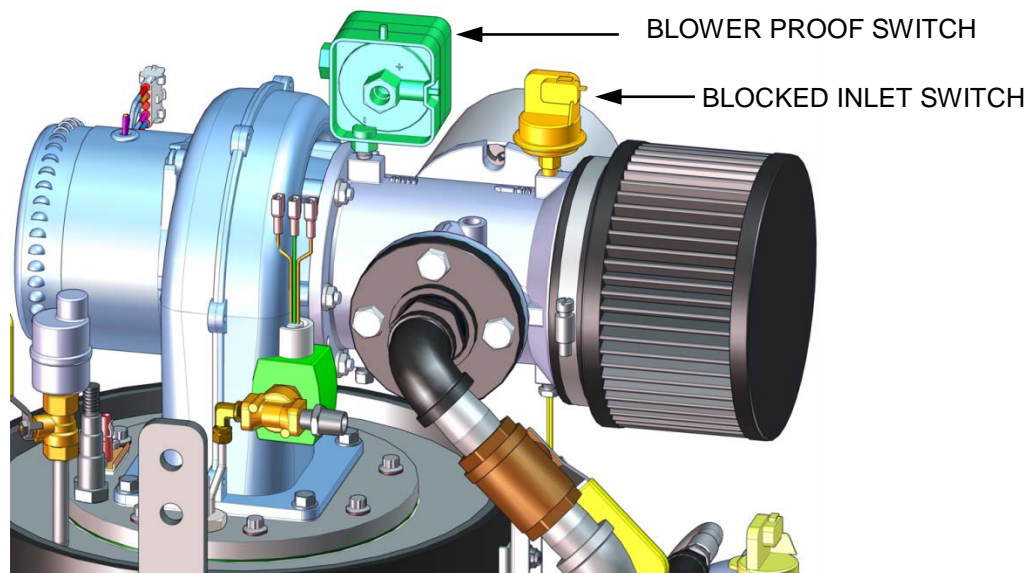

Figure 3-3a: BMK 750 & 1000 Blower Proof Switch
4. Next, the blower proof switch on the Air/Fuel Valve (Figure 3-3a and 3-3b) closes. The display will show **PURGING** and indicate the elapsed time of the purge cycle in seconds.